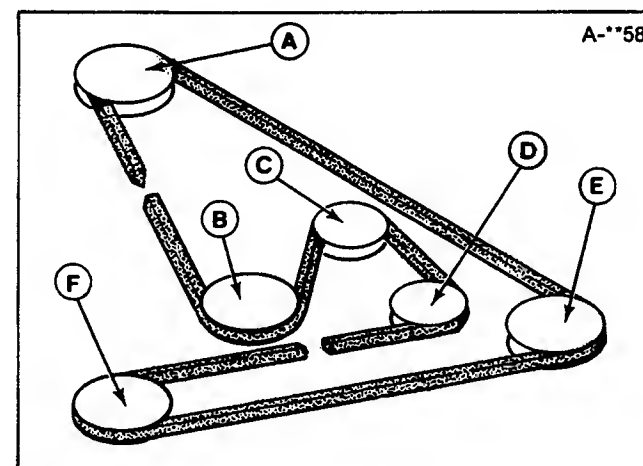

Figure 27. Mower Belt Pattern
7. Install the new belt on the pulleys. The belt pattern is shown in figure 27. Notice that the "V" side of the belt drives the V-pulleys (A, B, E) and flat side of belt rides on the flat idler pulleys (C, D). Be sure there are no twists in the belt. Reinstall and tighten the belt stops.